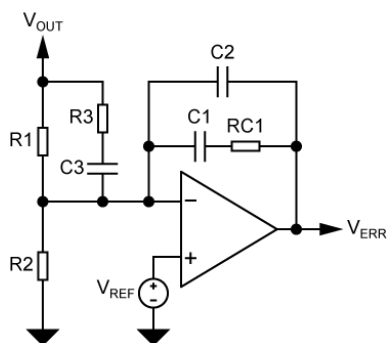

Figure 12. Type III Compensation Network
The power inductor and output capacitor create the resonant frequency at F_o . It is preferred to make the desired crossover frequency (loop bandwidth) greater than this at F_{co} with a phase margin (PM) of typically 50 degrees. The maximum phase boost, on a log scale, occurs approximately half way between the highest zero (F_{Z2}) and the lowest pole (F_{P1}). To be precise, it is at $\sqrt{F_{Z2} \times F_{P1}}$. The required compensation network for this is a double pole, double zero or type III network shown in Figure 12.